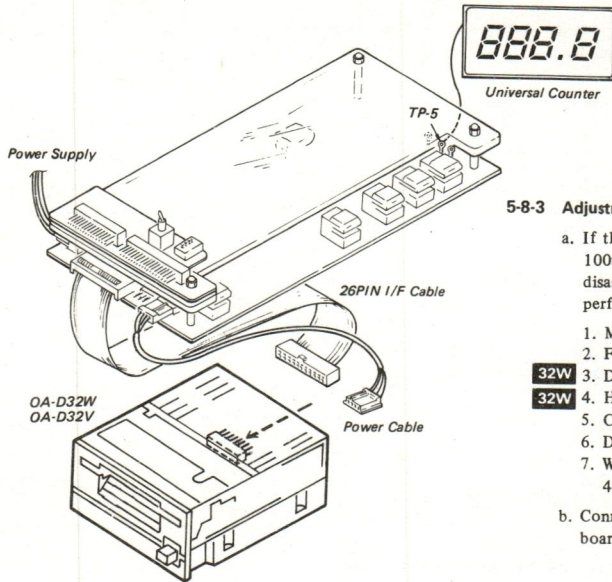

Fig. 5-8 (a) Motor Speed Measurement
a. Connect the disk drive to the MFD Checker II. (Refer to Fig. 5-8 (a))